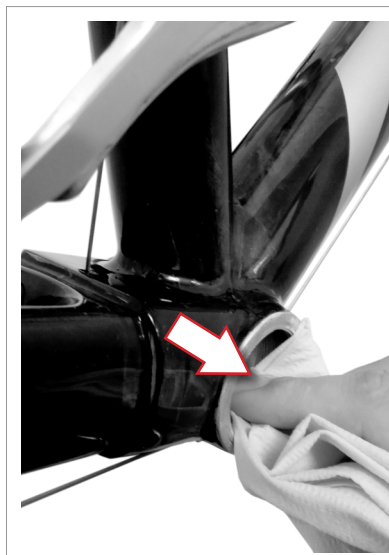

Fig.3
- Clean and degrease the threads of the bb shell (Fig. 3).